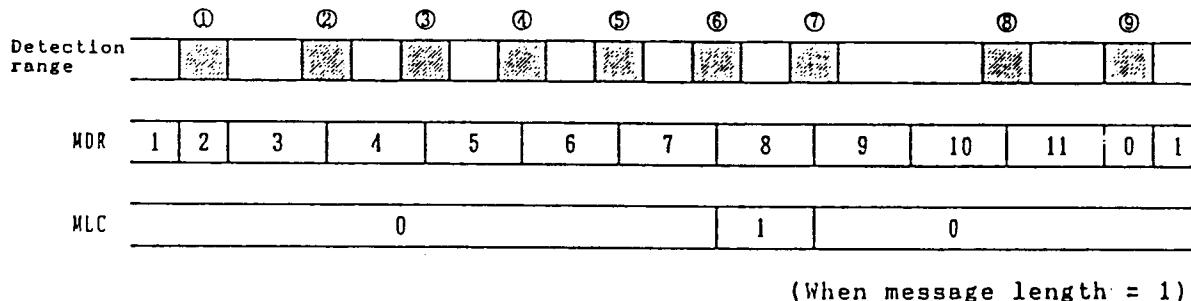

Figure 3.2 Start bit detect position
- ① in Figure 3.2 is the period when the state counter is "2"
- ② through ⑧ in Figure 3.2 is the -13 μ s and +26 μ s period where the start bit should have been positioned
- ⑨ in Figure 3.2 is the period when the state counter is "0"
(for ② through ⑧ in Figure 3.2)